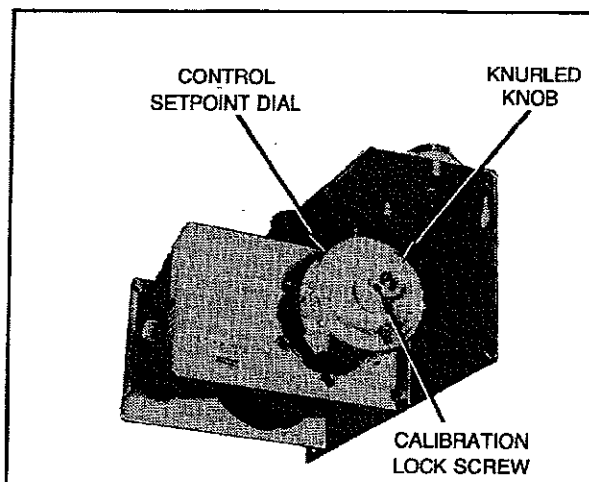

FIGURE 34 - Four-Stage Pneumatic-Electric Thermostat and Transmitter
A direct-acting pneumatic thermostat (shown in Figure 34) is required for the pneumatic-electric control system. In operation, the pneumatic thermostat will increase branch line air pressure to the pressure switch as the return chilled water temperature rises.
1. Unlock the calibration screw, shown in Figure 34.